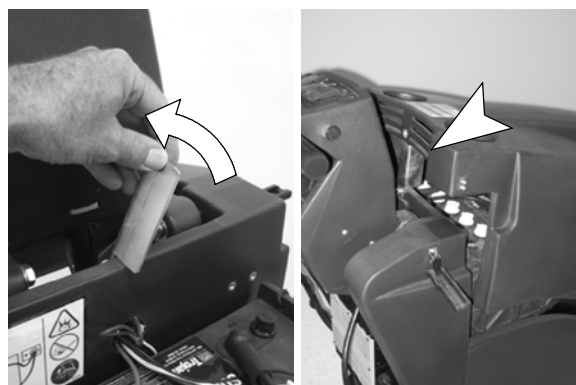

FIG. 24
6. Flip up hood support stand and rest hood on stand to promote ventilation (Figure 24).